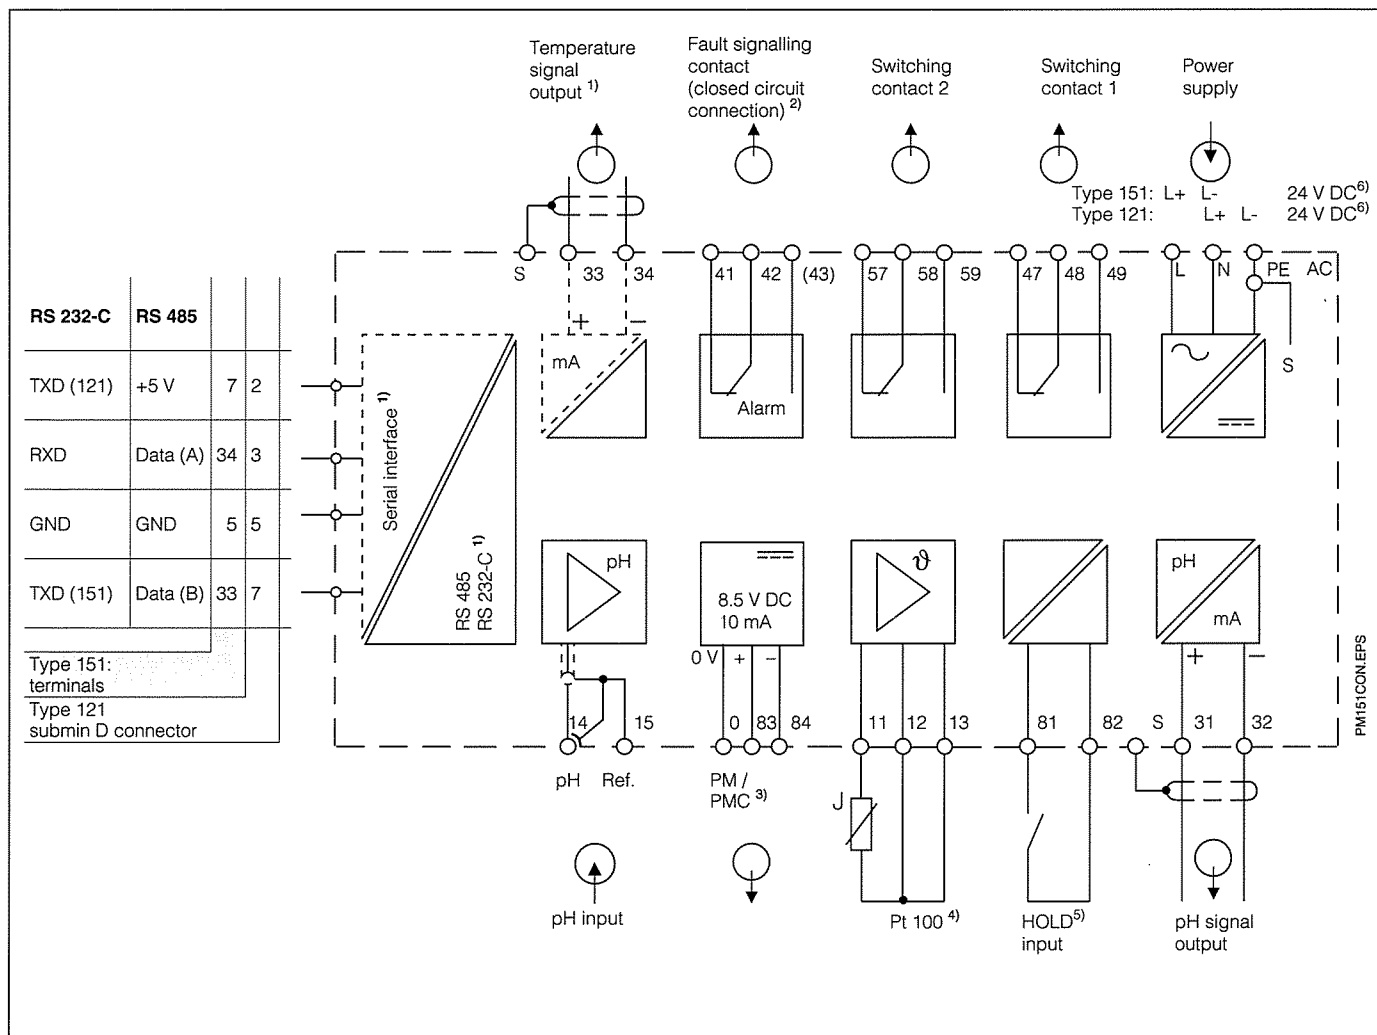

Fig. 4.15: Electrical connection of Mycom CPM 121-P/151-P
- Connect the instrument according to the connection diagram (see fig. 4.15). Signal cables must be spatially separated from mains and power cables.